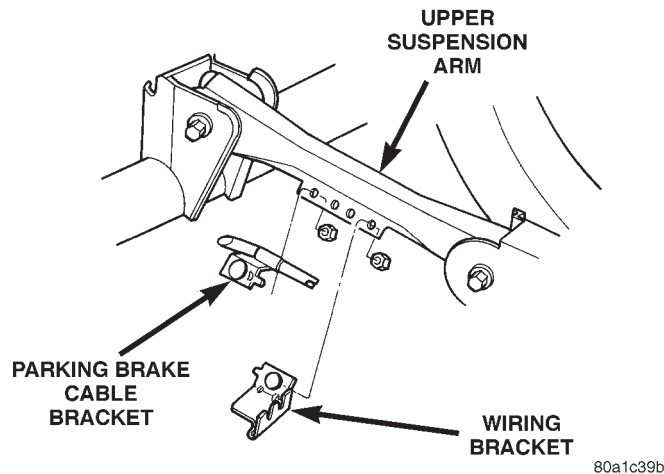

Fig. 4 Parking Brake Cable/Bracket And Wiring Bracket
- (1) Raise and support the vehicle.
- (2) Remove the parking brake cable/bracket and ABS wiring bracket from the arm if equipped (Fig. 4).